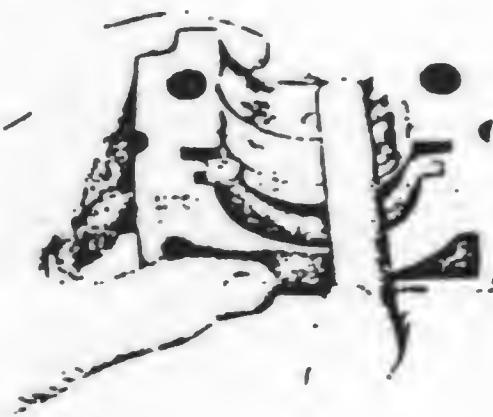

FIG. 26 REAR MAIN BEARING PACKING
**a. Description.—**The crankshaft rotates in three steel-backed babbitt-lined bearings, the front bearing taking the thrust. Packing at the rear bearing, (Fig. 26), prevents the escape of oil. The main bearing journal diameter and length dimensions are: Front, 2.3340"-1.920"; Center, 2.3340"-1.8125"; Rear, 2.3340"-1.75".
(1) The steel-backed babbitt-lined bearings are made to size and are interchangeable without line reaming. The running tolerance of the bearing is established at .001" to .0025". No adjustment is
(1) The rear main bearing is sealed by a wick type packing, installed in grooves machined in the crankcase and rear main bearing cap, (Fig. 26).
(2) To install a new seal at the rear main bearing cap, insert the packing in the groove with the fingers. Then using a round piece of wood or steel, roll the packing into the groove. When rolling the packing, start at one end and roll the packing to the center of the groove. Then starting from the other